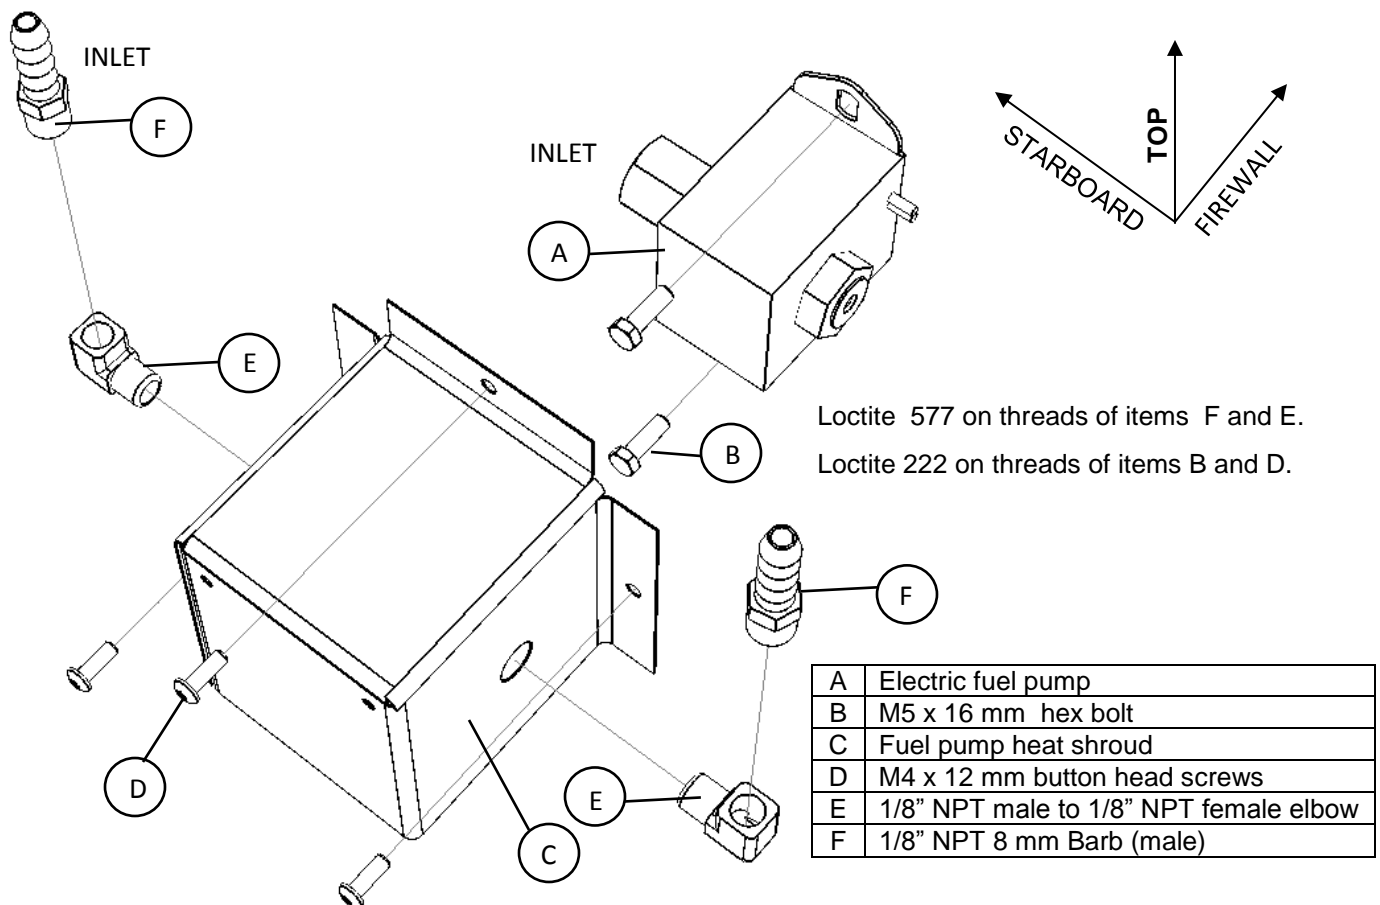

Figure 62: Electric fuel pump fitment / assembly (912 ULS).
3. Remove tie wraps as required. Remove the heatshrink (1) from the wires and desolder.
4. Cut the safety wire (2), pull the fire resistant sleeving (3) back and remove (refer to paragraph 5.1) the two ear clamps retaining the fuel hoses to the fuel pump fittings.
5. Undo the fuel pump fittings (4) (refer to Figure 62).and remove.
6. Undo the three bolts / screws (5) retaining the fuel pump heat shroud (6) to the firewall and remove the shroud (pull the wires attached to the pump through the rubber grommet on the pump cover side).
Note: The cover retaining screws (5) (shown in this photograph as hexagonal head bolts ) are button head screws. Refer to Figure 62.